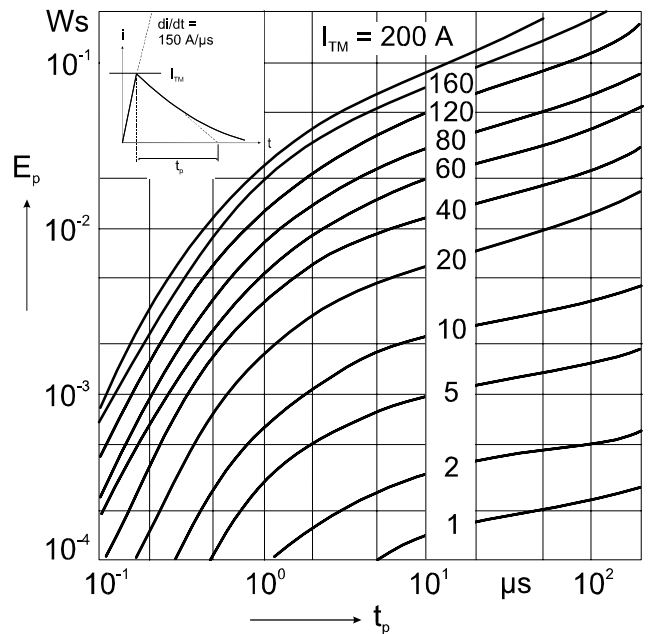

Fig. 6 Energy per pulse for single BOD element for exponentially decaying current pulse. E_p must be multiplied by number of elements for total energy.
- a. The maximum junction temperature shall be calculated for a module IXBOD 1 -30R at an ambient temperature $T_a = 60^{\circ}C$, an exponentially decaying current $I_{TM} = 40A$, a pulsewidth $t_p = 2 \mu s$, an operating frequency $f = 50 \text{ Hz}$ and natural convection. From the diagram Fig. 6 the energy per pulse is obtained: